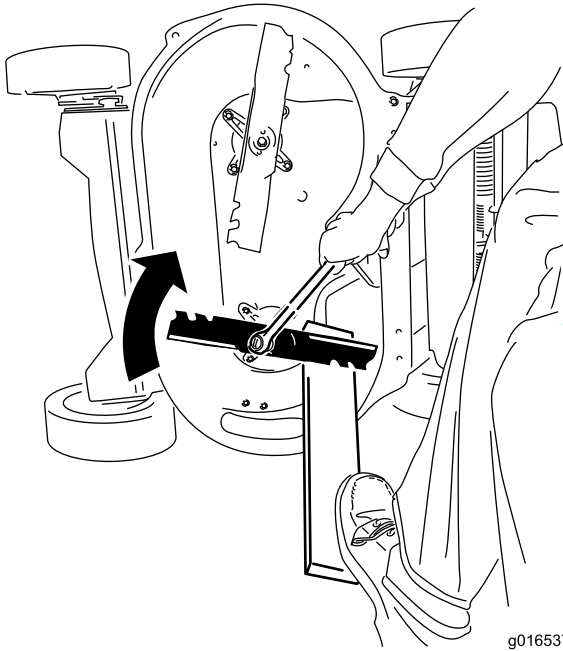

Figure 36
- Steady each blade with a board and turn the blade bolt clockwise with a torque wrench as shown in Figure 36; torque each blade bolt to 60 ft-lb (82 N-m).